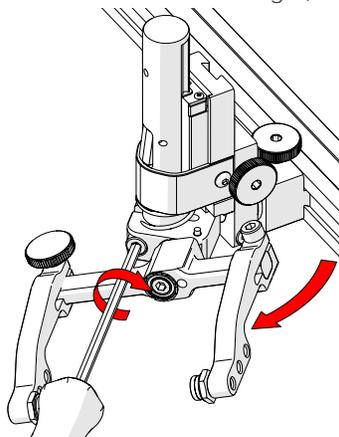

Fig. 54 - Rotate and tighten
3. Tighten the transverse adjustment screw (*Fig. 54*).